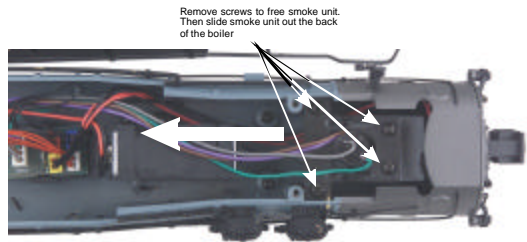

Figure 15
2. Remove the four screws securing the smoke unit inside the shell as seen in Fig. 15.
3. With the board free of the mounting screws, slide the assembly toward the center of the boiler as seen in Fig. 15.